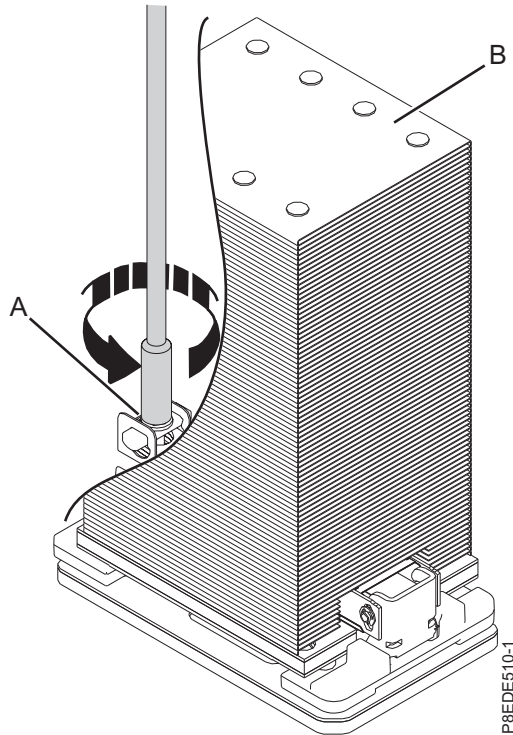

Figure 33. Removing the heat sink
- a. Loosen the heat sink actuation screw by turning the supplied 5.5 mm nut driver (part number 43W3032) counterclockwise **(A)** until the screw becomes loose and moves freely as shown in Figure 33 on page 31.